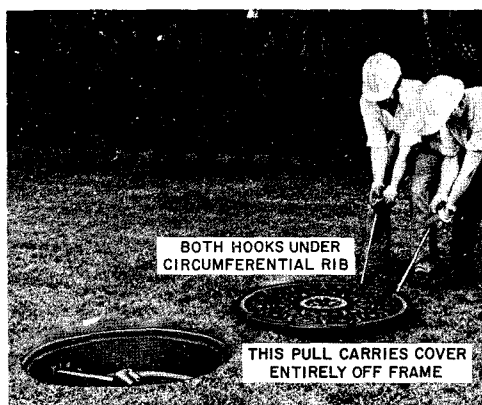

Fig. 37—Sliding Cover Clear of Frame—Two-Person Method
(5) While the person on the pulling side still has the manhole hook engaged, the other crafts-person moves around and engages the hook under the circumferential rib. The craftspersons then assume positions so that the cover can be pulled clear of the frame (Fig. 37).